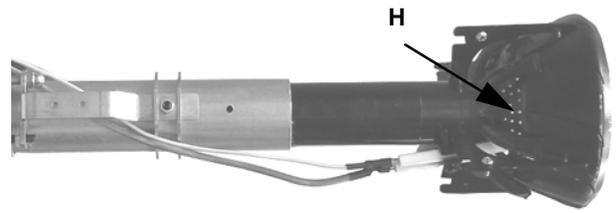

Fig. 64
- 4 Disconnect the connector **CR** (Fig. 64).
To remove the head, the operator must pull it towards himself. Once the combustion head is removed, check that the air and gas holes are not obstructed (Fig. 64 - **H**). Clean the combustion head by a compressed air blow or, in case of scale, scrape it off by a scratchbrush.